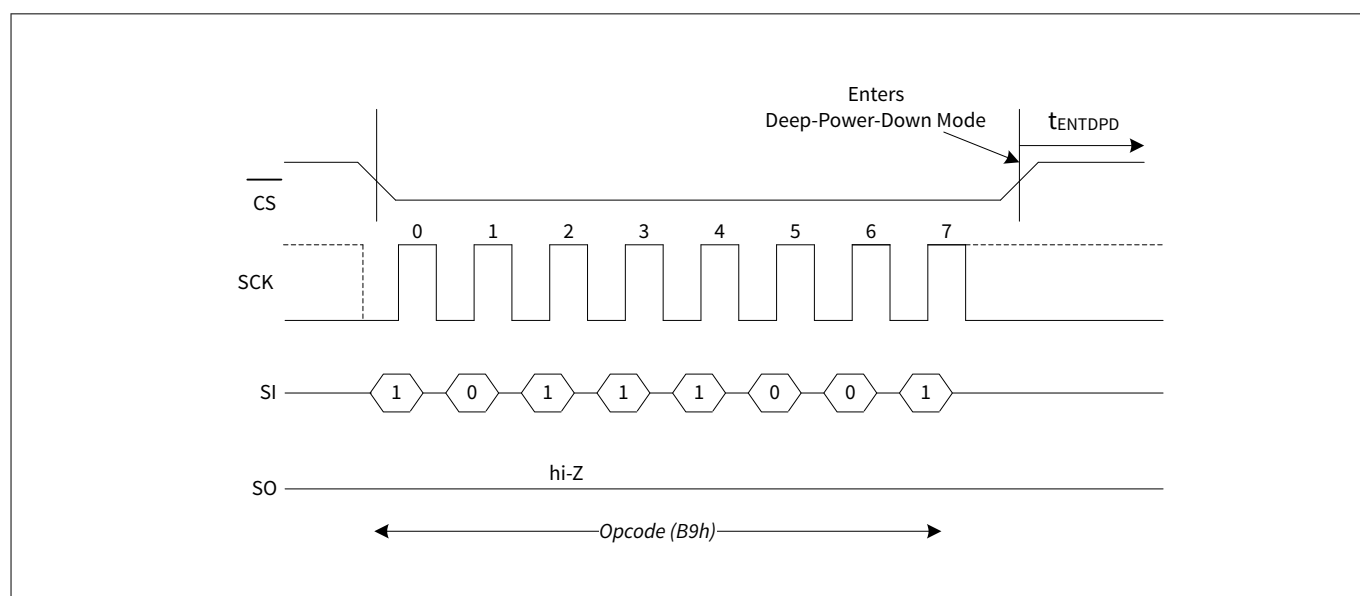
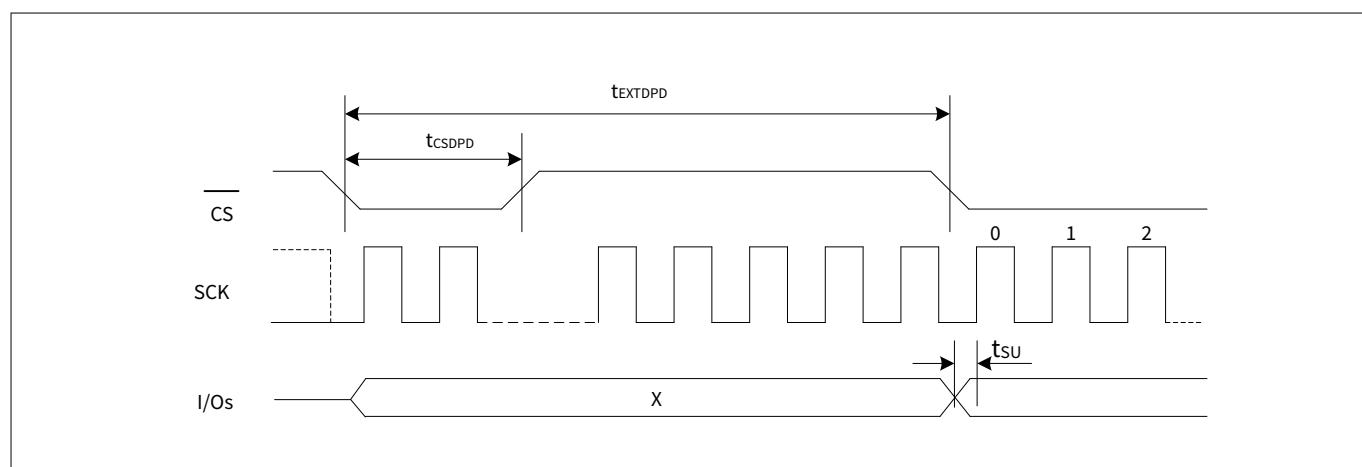

Figure 101 DPD entry in SPI mode
Figure 104 DPD exit in SPI mode
A \overline{CS} pulse-width of t_{CSDPD} or hardware reset exits the DPD mode after t_{EXTDPD} time. The \overline{CS} pulse-width can be generated either by sending a dummy command cycle or toggling \overline{CS} alone while SCK and I/Os are don't care. The I/Os remain in hi-Z state during the wakeup from deep power down. Refer to Figure 101 for DPD entry and Figure 104 for DPD exit timing.
- The timing details shown in the Figure 101 are applicable as is in DPI and QPI modes.